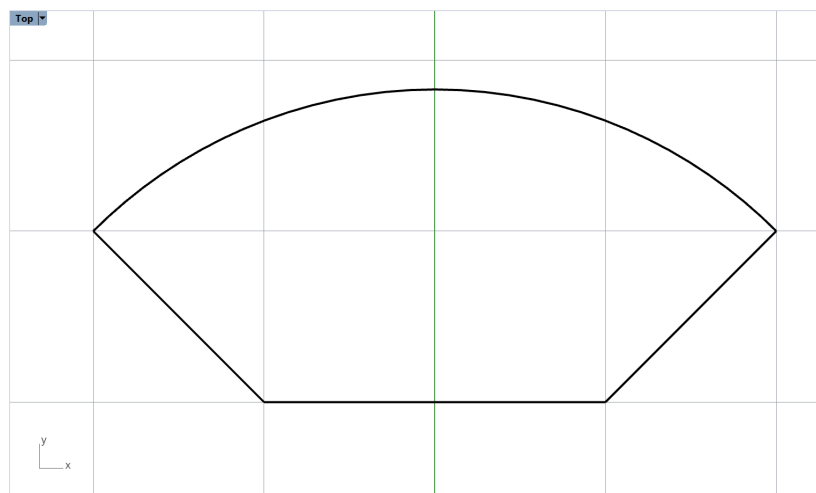

Figure 6: Single polyline consisting of three lines and an arc.
5. Select all lines with **Ctrl+A** and type the **_Join** command to create a single polyline as in Figure 6.